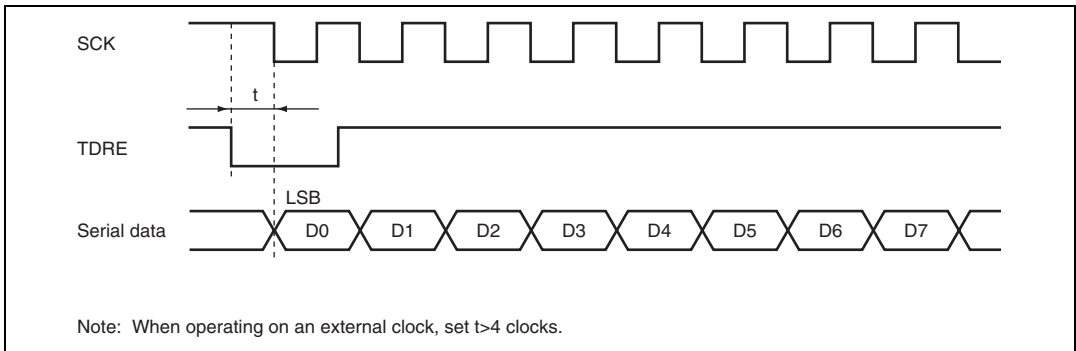

Figure 13.39 Example of Clocked Synchronous Transmission by DMAC or DTC
- When an external clock source is used as the serial clock, the transmit clock should not be input until at least 5 ϕ clock cycles after TDR is updated by the DMAC or the DTC. Misoperation may occur if the transmit clock is input within 4 ϕ clocks after TDR is updated. (figure 13.39)